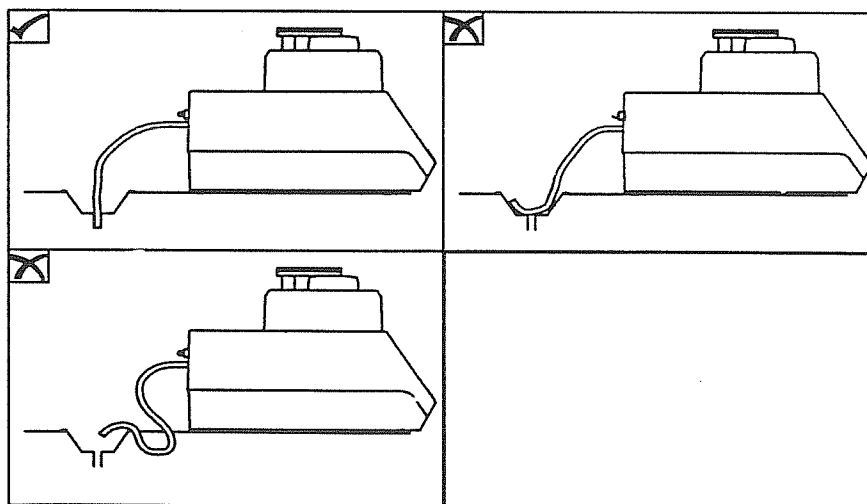

Fig.4.
- ◆ Run the drain hose to drain as shown in Fig.4.